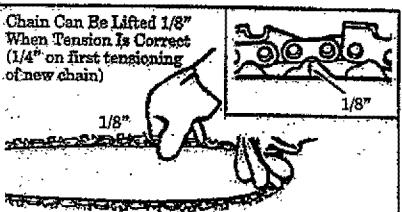

Figure 12
- Check the tension by lifting the chain from the guide bar at the center of the bar. Figure 12.